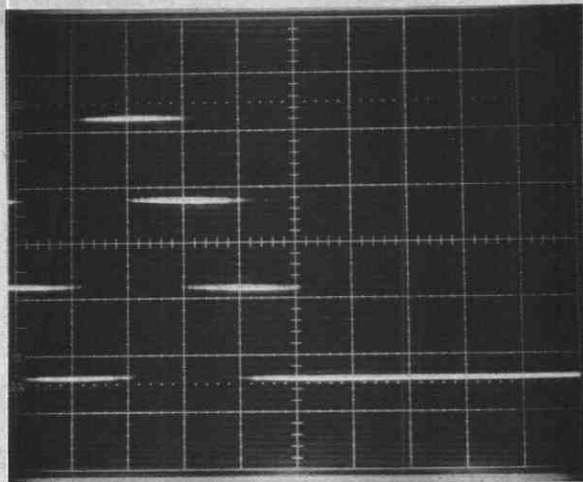

Fig. 3
4. Apply a precision voltage reference set to -5V to the analog input (pin 33). Observe cross plot as shown in figure 3. The last step should be centered on the vertical grid line one cm to the left of center. Adjust offset potentiometer as necessary to achieve this positioning.